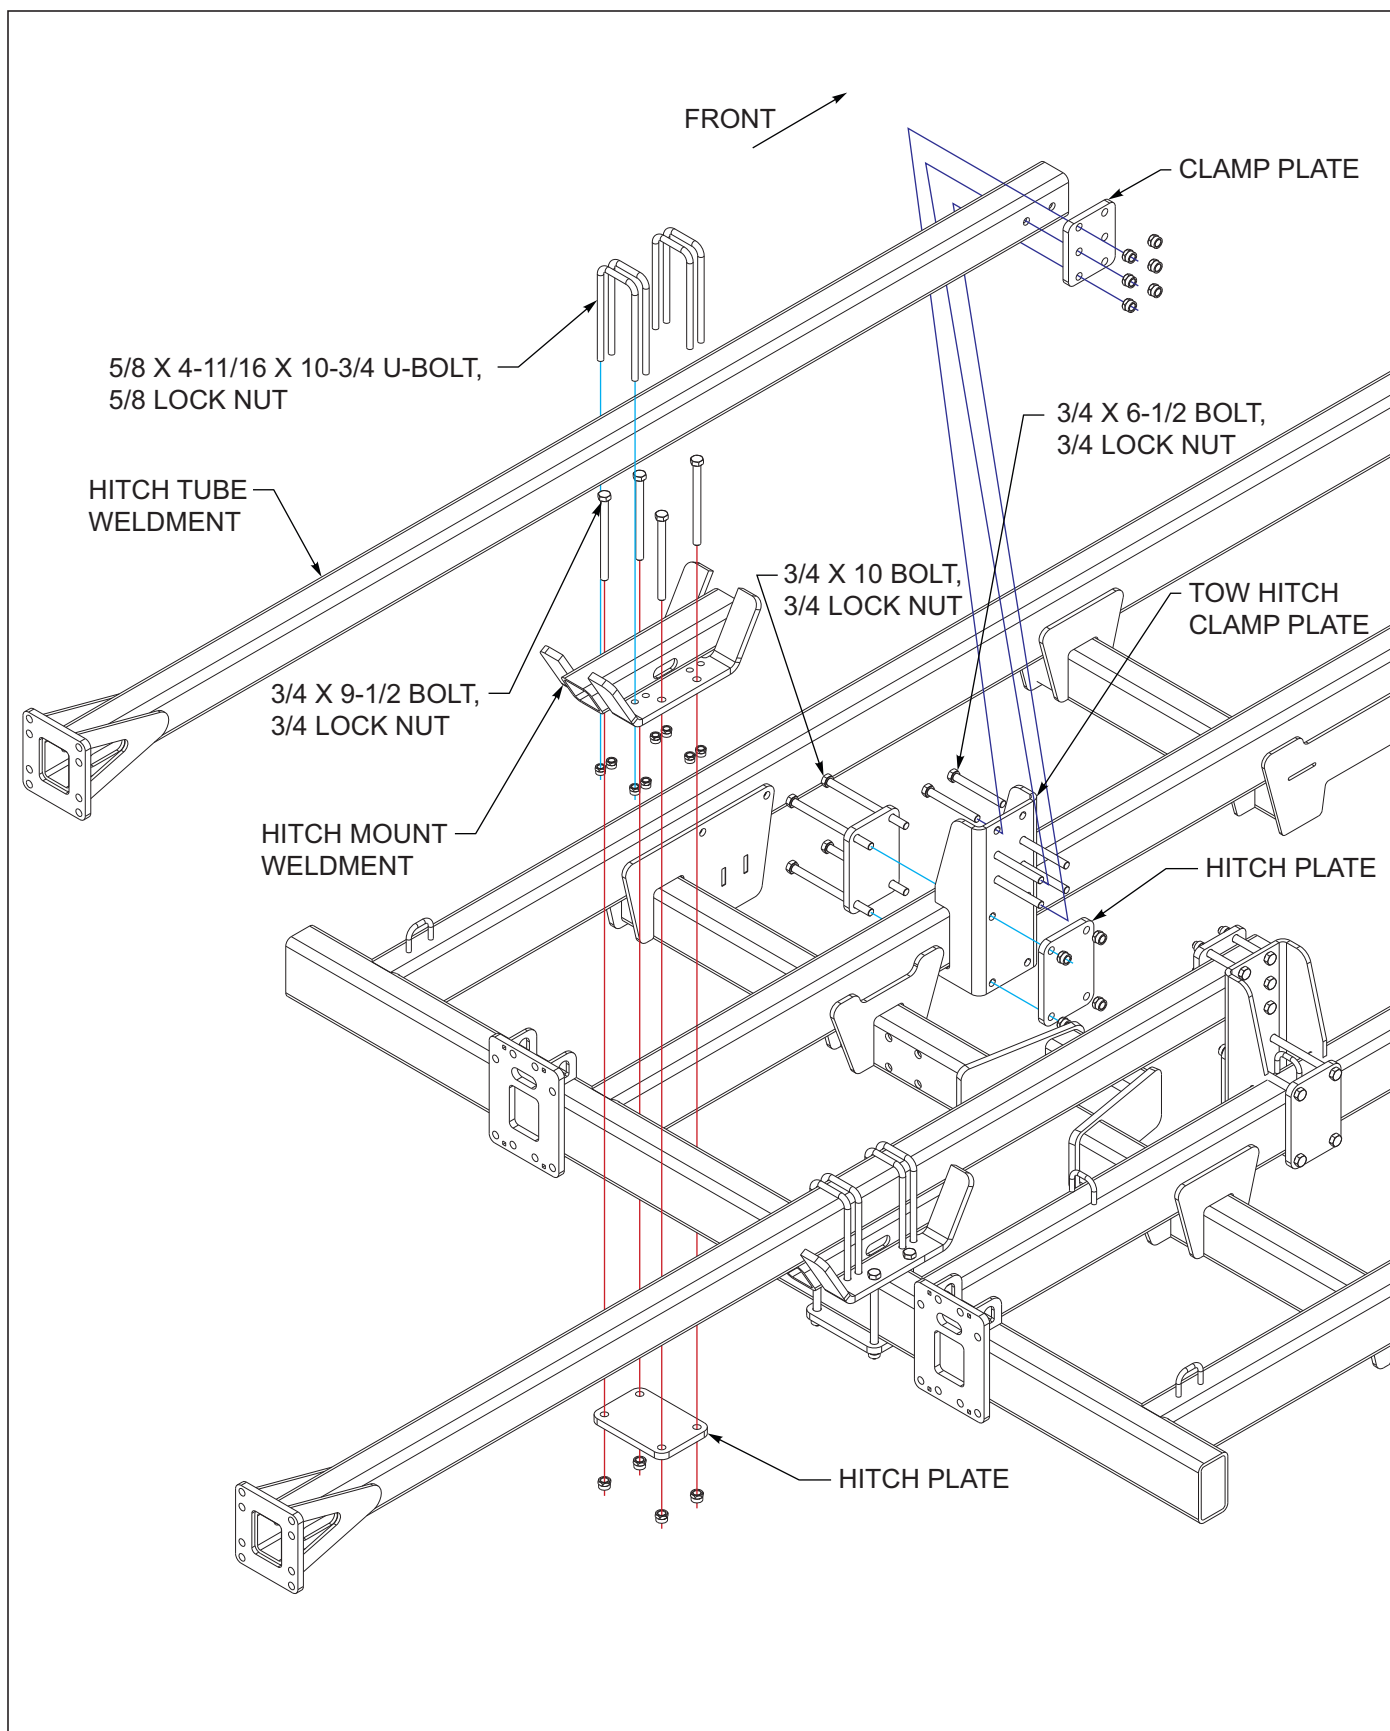

Figure 3-42: Rear Tow Hitch Installation (1 of 2)
1. Attach hitch mount weldments to top side of rear center frame tube, hitch plates below center frame tube with 3/4 x 9-1/2 bolts and 3/4 lock nuts *See Figures 3-42.*